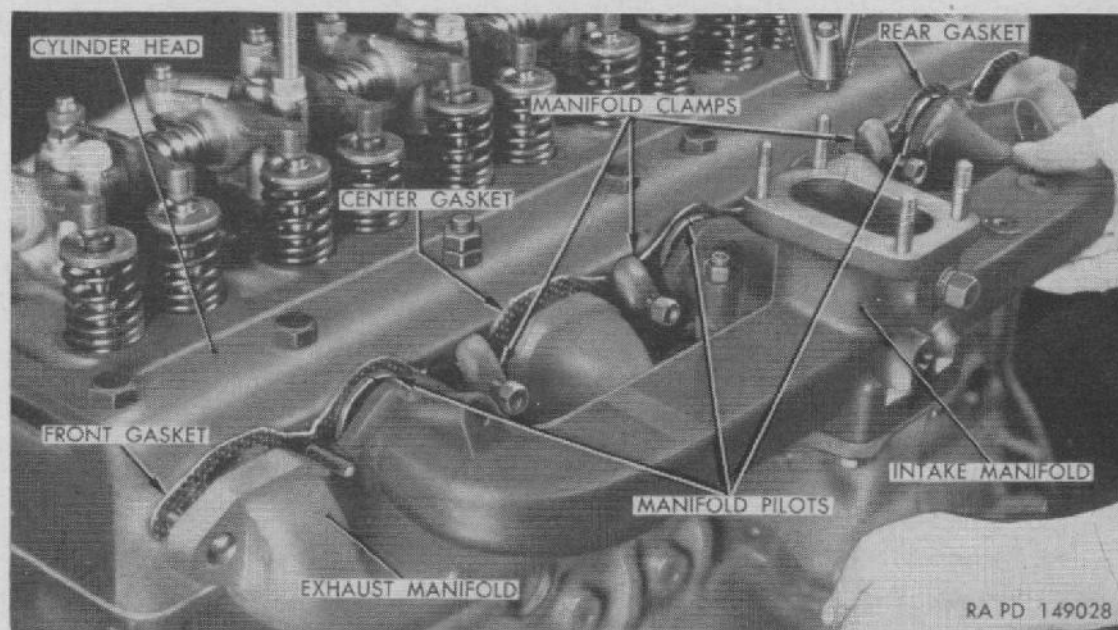

Figure 30. Installing manifolds.
- (4) Disconnect crankcase ventilation tube at ventilator valve. Remove ventilator valve from tee, then remove tee from intake manifold.
- (5) Disconnect engine primer line at fitting at rear of intake manifold.
- (6) Remove stud nuts and washers from two studs at each end of manifold assembly. Pull governor line clip off rear stud and slide back on lines. Loosen balance of manifold stud nuts sufficiently to permit clamps to be turned into vertical position (*fig. 30*). Pull manifold
- (3) Insert three manifold pilots in cylinder head and place gaskets at cylinder head as shown in figure 30. Place four clamps on manifold studs and start nuts on threads. Lift manifold into position at cylinder head and turn clamps to hold manifold assembly in place. Install washers and nuts on two studs at each end of manifold.
in third hole from front and the other in fourth hole from rear of cylinder head (fig. 30).